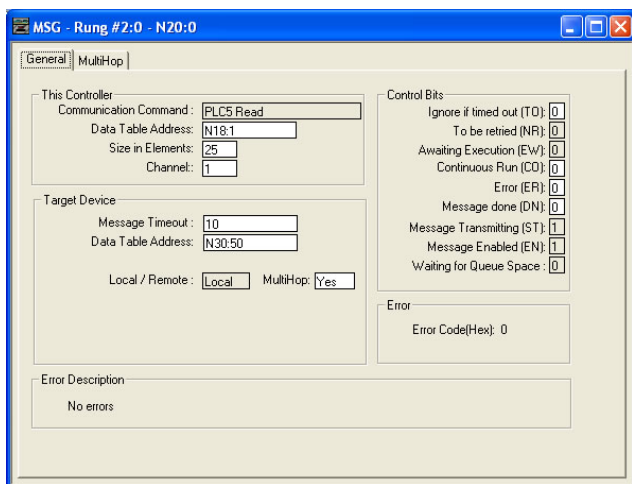

Figure 113: MSG Configuration, "General" Tab
- Upon hitting the <ENTER> key while in the "Control Block" entry box, the MSG Properties dialog box should appear (or it can be opened by clicking on the "Setup Screen" button at the bottom of the MSG instruction). Refer to Figure 113.